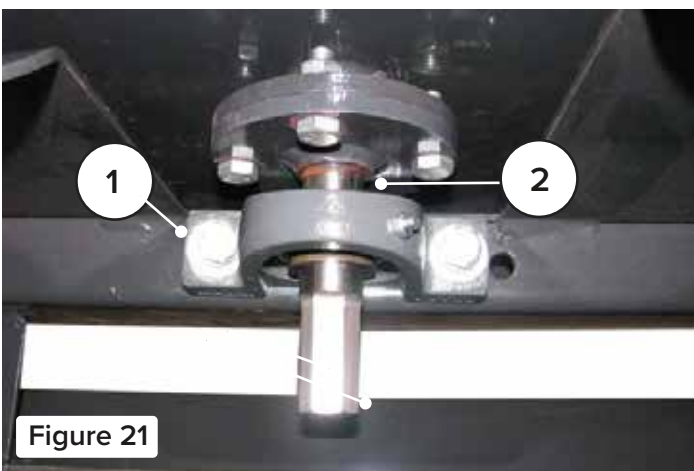

Figure 21
16. Install and tighten the bearing mounting bolts (Item 1). [Figure 21]
17. Lock bearing offset locking collar (Item 2) and tighten the set screws. [Figure 21]